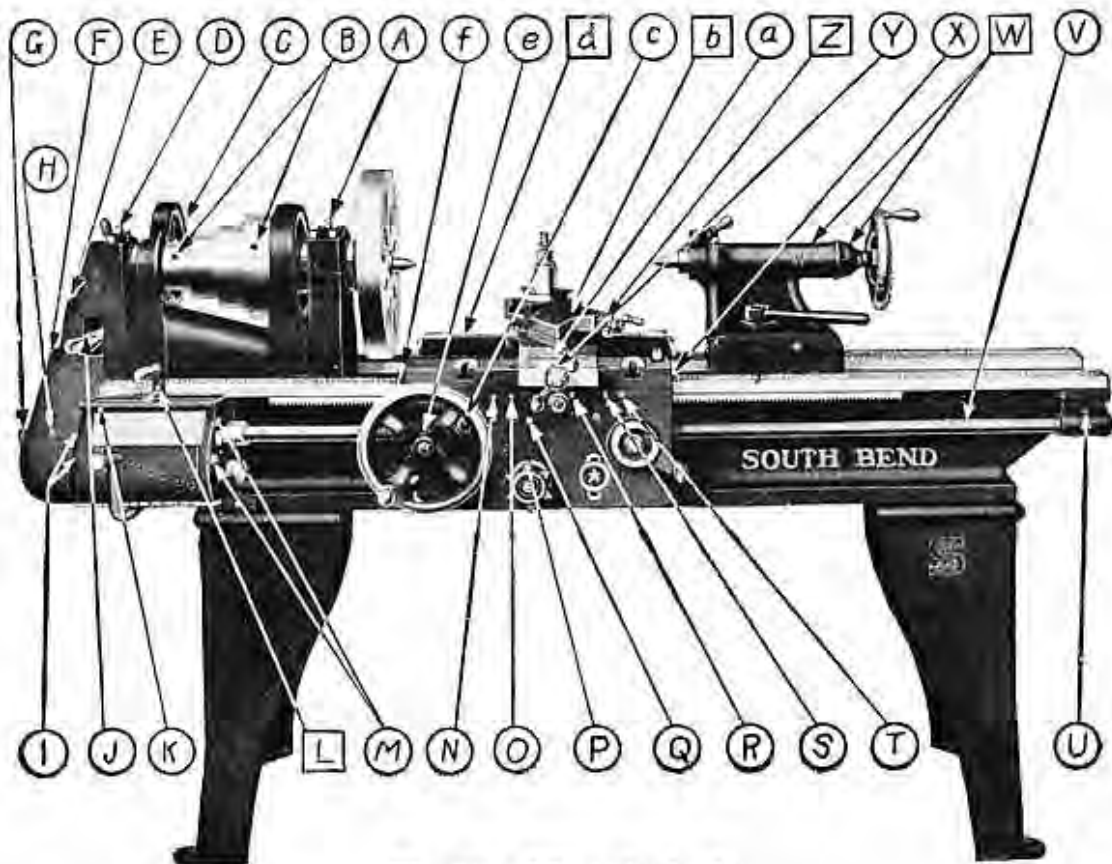

Fig. 411.—Oiling the Lathe
Fig. 411 shows a photograph of the lathe with the principal oil holes indicated by arrows. There is a symbol at the end of each arrow showing how frequently each bearing should be oiled. Start with oil hole marked "A" and follow through in regular order, B, C, D, etc.
**First.**—Use only a good grade of machine oil, equal in quality to Atlantic Red, in oiling the lathe. Oil all bearings regularly as directed in Fig. 411.